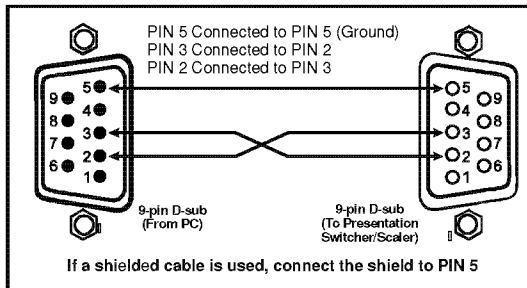

Figure 4: Connecting the PC
- Connect the RS-232 9-pin D-sub port on your PC to the RS-232 9-pin D-sub rear panel port on the **VP-729** unit, forming a cross-connection¹, as Figure 4 illustrates